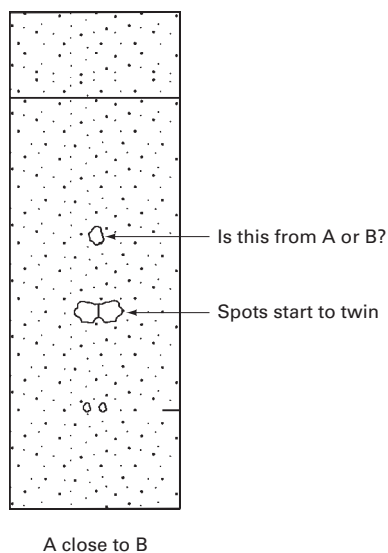

FIGURE 27.12 Effect of spots being too close together.
2. Put the spots too close together. Here you can get the spots bleeding into each other, and you might not be able to tell which spot came from which origin (Fig. 27.12).